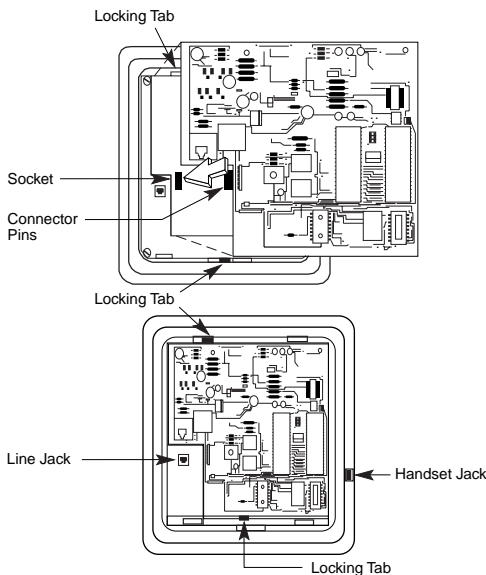

Figure 3-9. Installing an MFM Module
- **5. Install the new MFM. See Figure 3-9.**